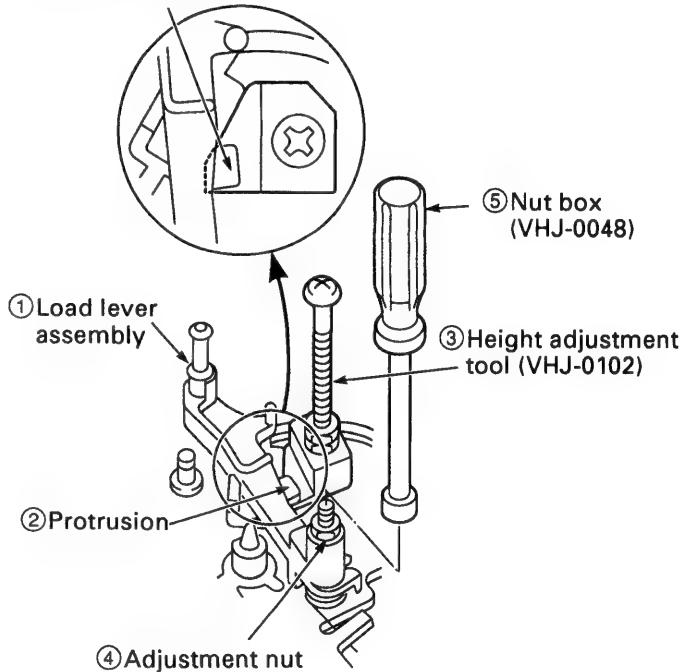

Fig.4-3-2
### 4-3-2. LOAD LEVER ASSEMBLY HEIGHT ADJUSTMENT (See Fig.4-3-2)
2. Position the height adjustment tool (VHJ-0102)③ under the full surface of the protrusion ② on the load lever assembly ①, as shown in Fig.4-3-2.
3. Using your fingers, gently screw the adjustment nut ④ clockwise into the nut box (VHJ-0048) ⑤ until the protrusion ② of the load lever assembly ① touches the height adjustment tool (VHJ-0102)③ and the screw starts to feel tight. Next, loosen the adjustment nut ④ by 270° anticlockwise.